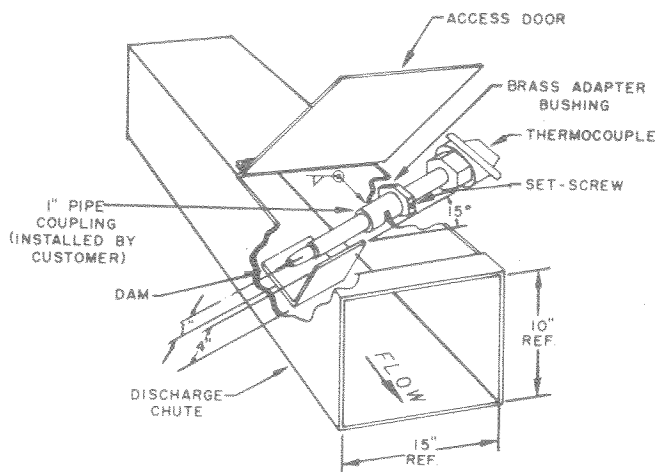

Fig. 2 - Drawing showing the placement of the thermocouple and "dam" in the dryer discharge chute.
5. Install a Hauck Rapid Response Material Temperature Thermocouple in the material discharge chute to sense the temperature of the material leaving the dryer. The thermocouple should be installed as shown in figure 2.